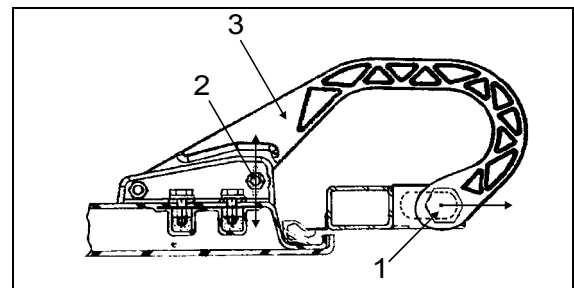

FIGURE 61: DOOR HINGE
2. Loosen nut (1, Fig. 61).
3. Move part (3, Fig. 61) as shown in figure for "LEFT or RIGHT" adjustment.
4. Tighten nut (1, Fig. 61).
5. Loosen nut (2, Fig. 61).